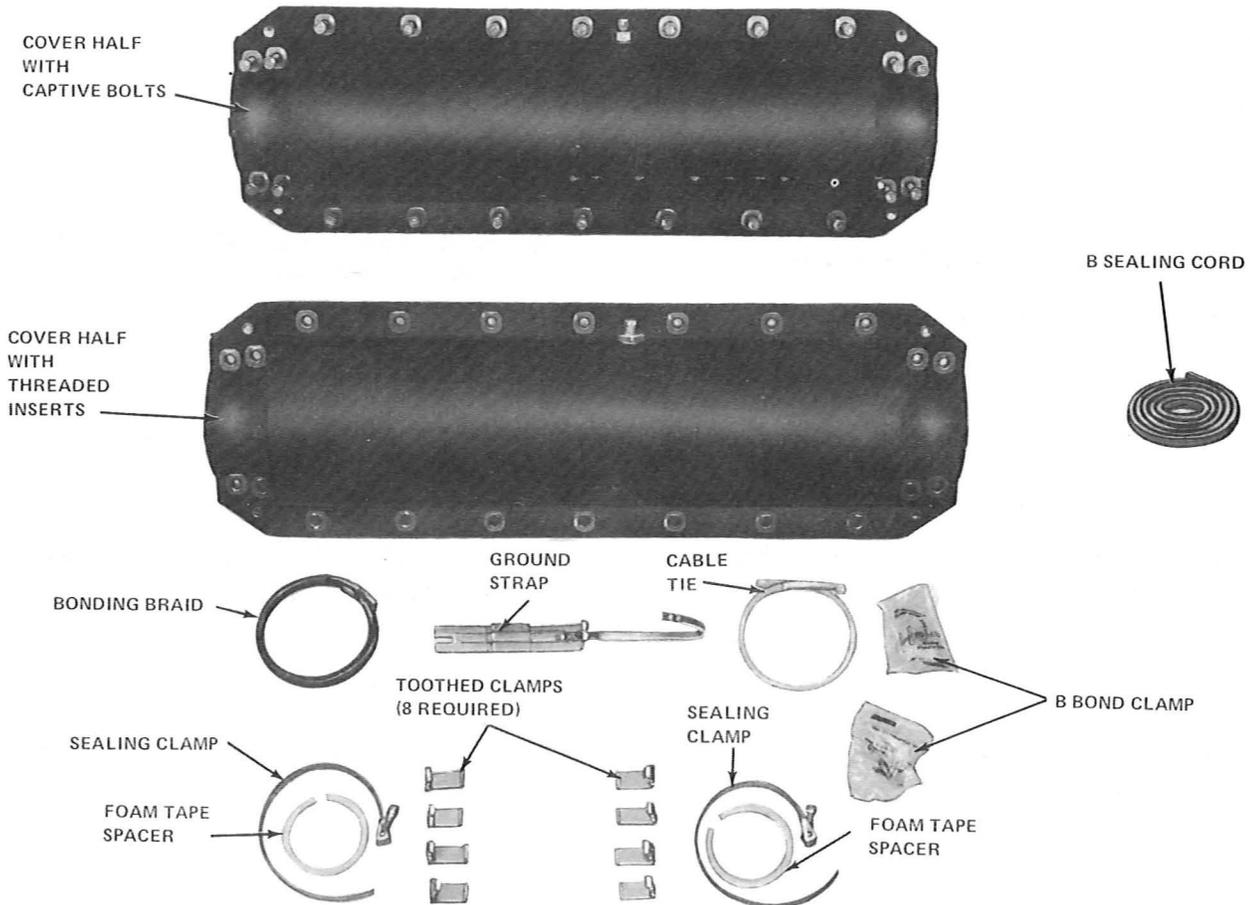

Fig. 1—50-Type Closure
2.01 The 50- and 51-type closures are illustrated in Fig. 1 and 2, respectively.